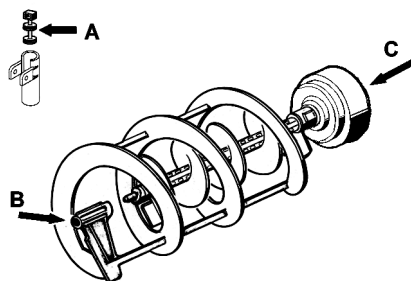

figure 13
- 2 Lubricate faucet piston, inside auger and outer spiral (see points A, B and C of figure 13) only with the grease supplied by the manufacturer or other **food grade approved** lubricant.